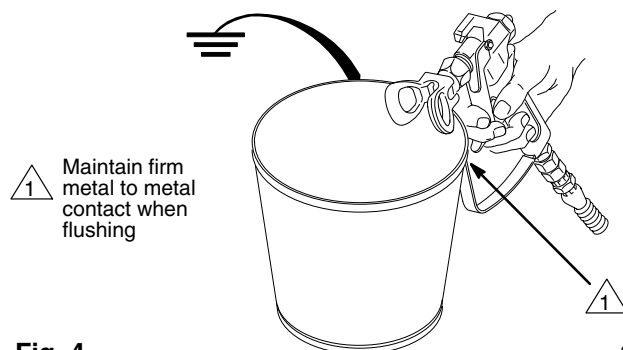

Fig. 4 0143
- e. Hold a metal part of the gun firmly against a grounded metal waste container. See Fig. 4.